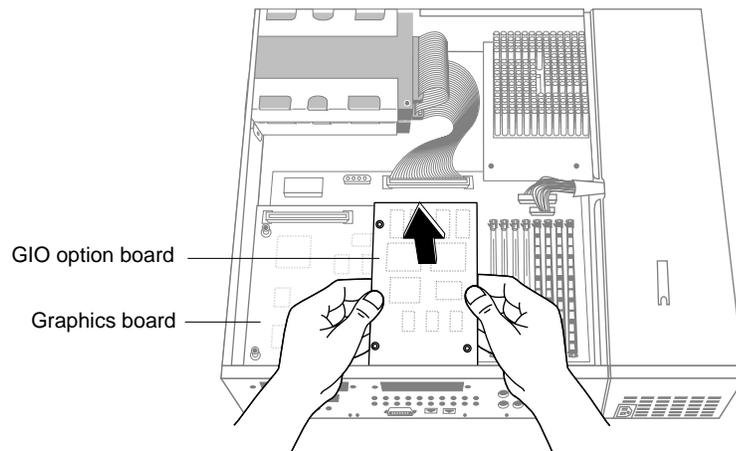

Figure 1-9 Disconnecting the GIO Option Board
- Disconnect the GIO board by grasping it firmly on the sides and pulling it up to disconnect the three connectors, as shown in Figure 1-9.